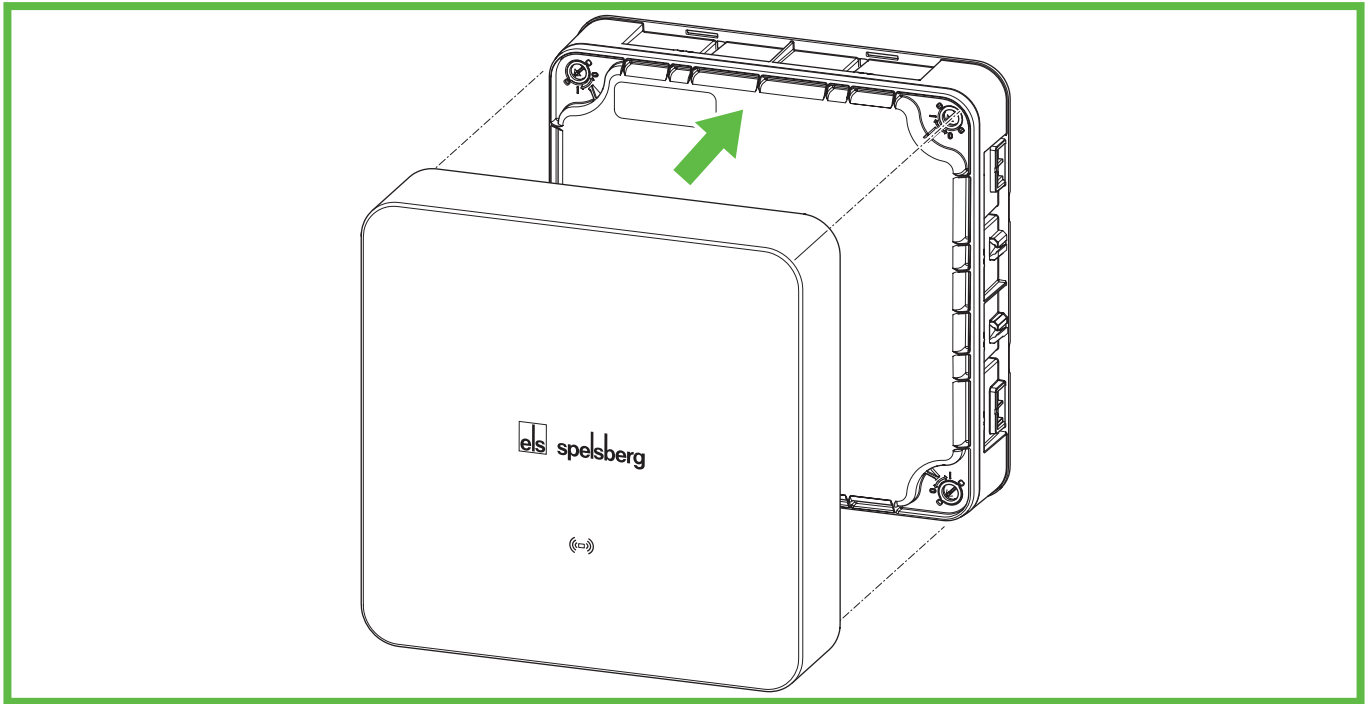

Abb. 16: Fitting the design cover
- ▶ Push the design cover onto the wallbox. The Spelsberg logo must be legible (see Abb. 16).